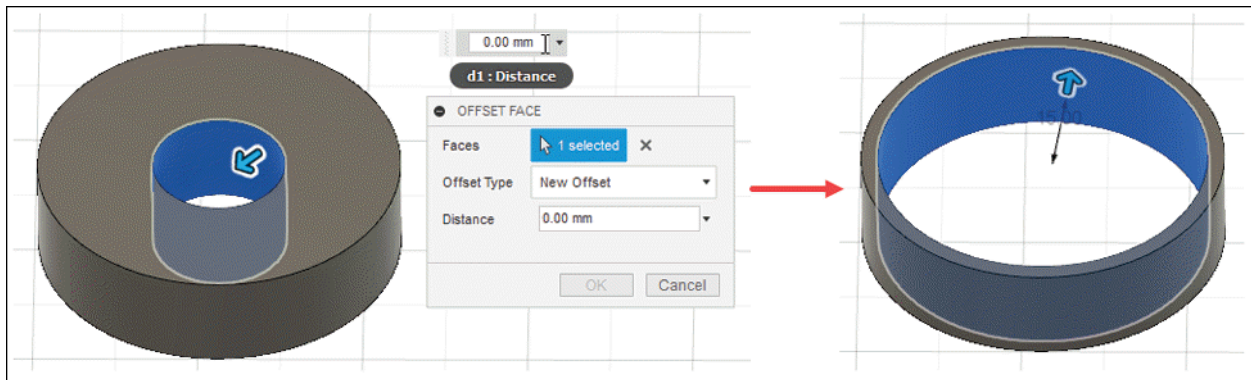

Figure-5. Preview on applying offset face
- Click in **Distance** edit box of **OFFSET FACE** dialog box or floating window from screen and enter desired value as the distance for offset. You can also move drag handle to set the distance. The preview of offset face will be displayed; refer to Figure-5.